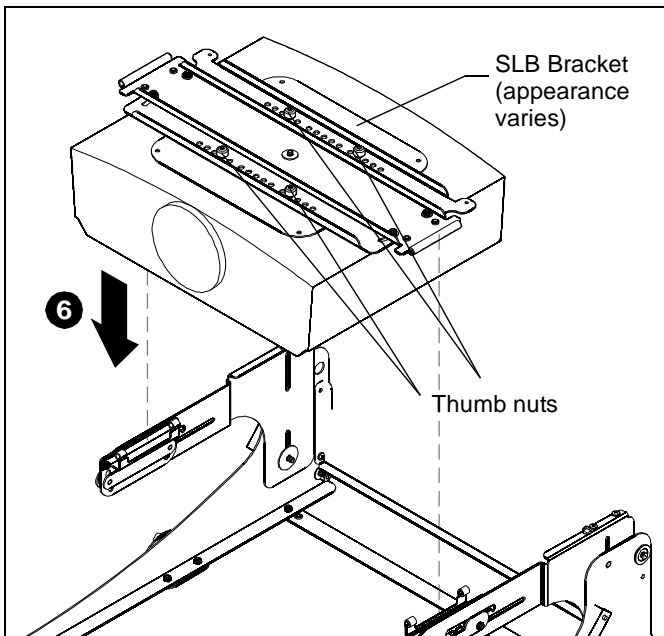

Figure 12
4. Place the yaw adjustment bracket over the studs on the SLB bracket, selecting the set of holes that best centers the projector weight. (See Figure 12)
6. Reinstall yaw adjustment bracket with projector to SL236 by setting it in place, and releasing tabs at each end of yaw adjustment bracket. (See Figure 12)